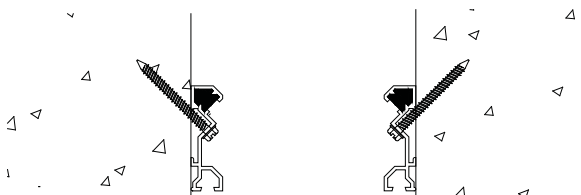

Figure 10
STEP 16. Fill the back seal retainer tracks of the installed base members with silicone sealant (by others) as illustrated in Figure 10.